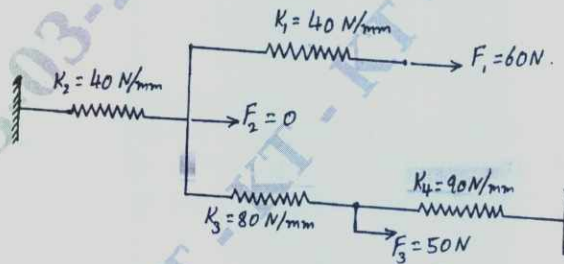

Fig Q1(c)
- c. For the spring system show in Fig Q1(c), using the principle of minimum potential energy. Determine the nodal Displacements.